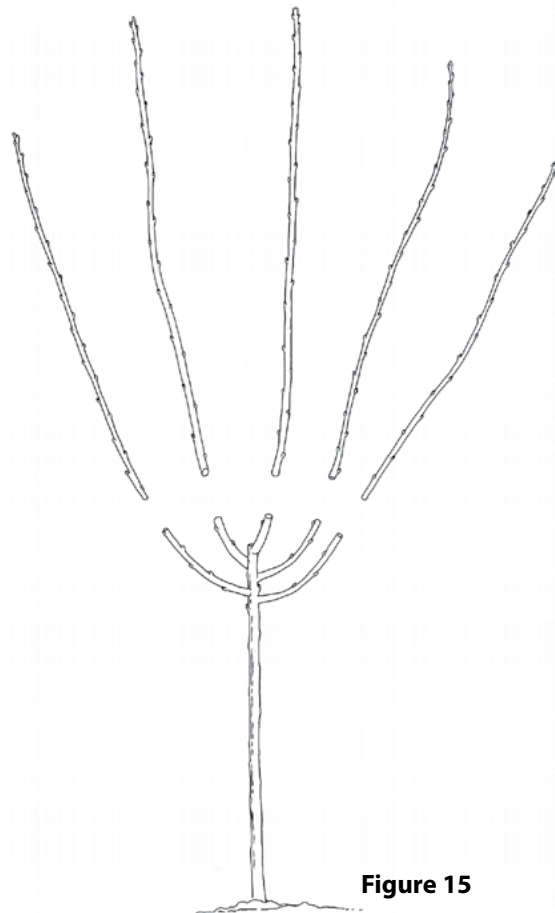

Figure 15
- **Head all leaders to 2–5 inches in length (Figure 15).**